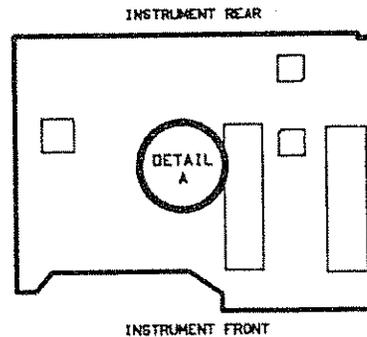

Figure 2-18. Sensor Check Source Modulation Cable
- Press **PRF** (6) key.
22. Disconnect W18 at A1J28 on the A1 Control Board. See figure 2-18.